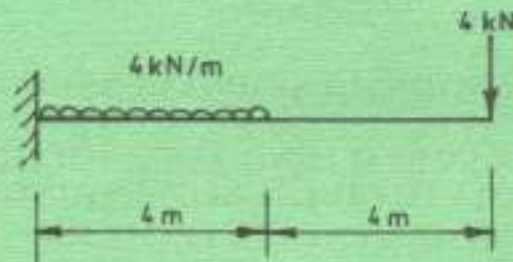

Fig.1
1. (a) Using Mohr's theorem, calculate the slope and deflection at free end of the cantilever beam shown in figure 1.